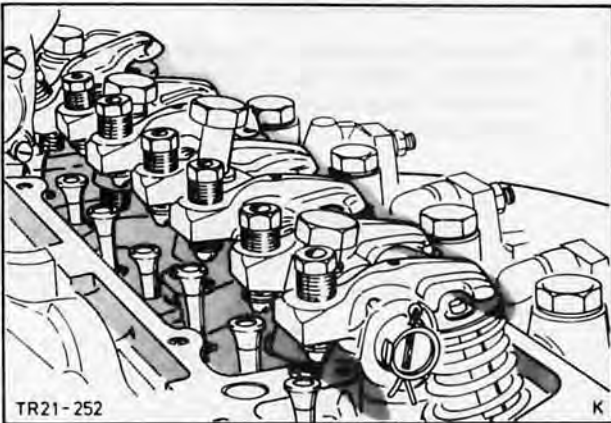

Fig. 183. Torque rocker shaft bolts as specified (see Technical Data)
7. Insert push rods into tappet sockets. Position rocker shaft guiding rocker arm adjusting screws into push rod sockets. Replace rocker shaft bolts and torque as specified, Fig. 183, (see Technical Data).